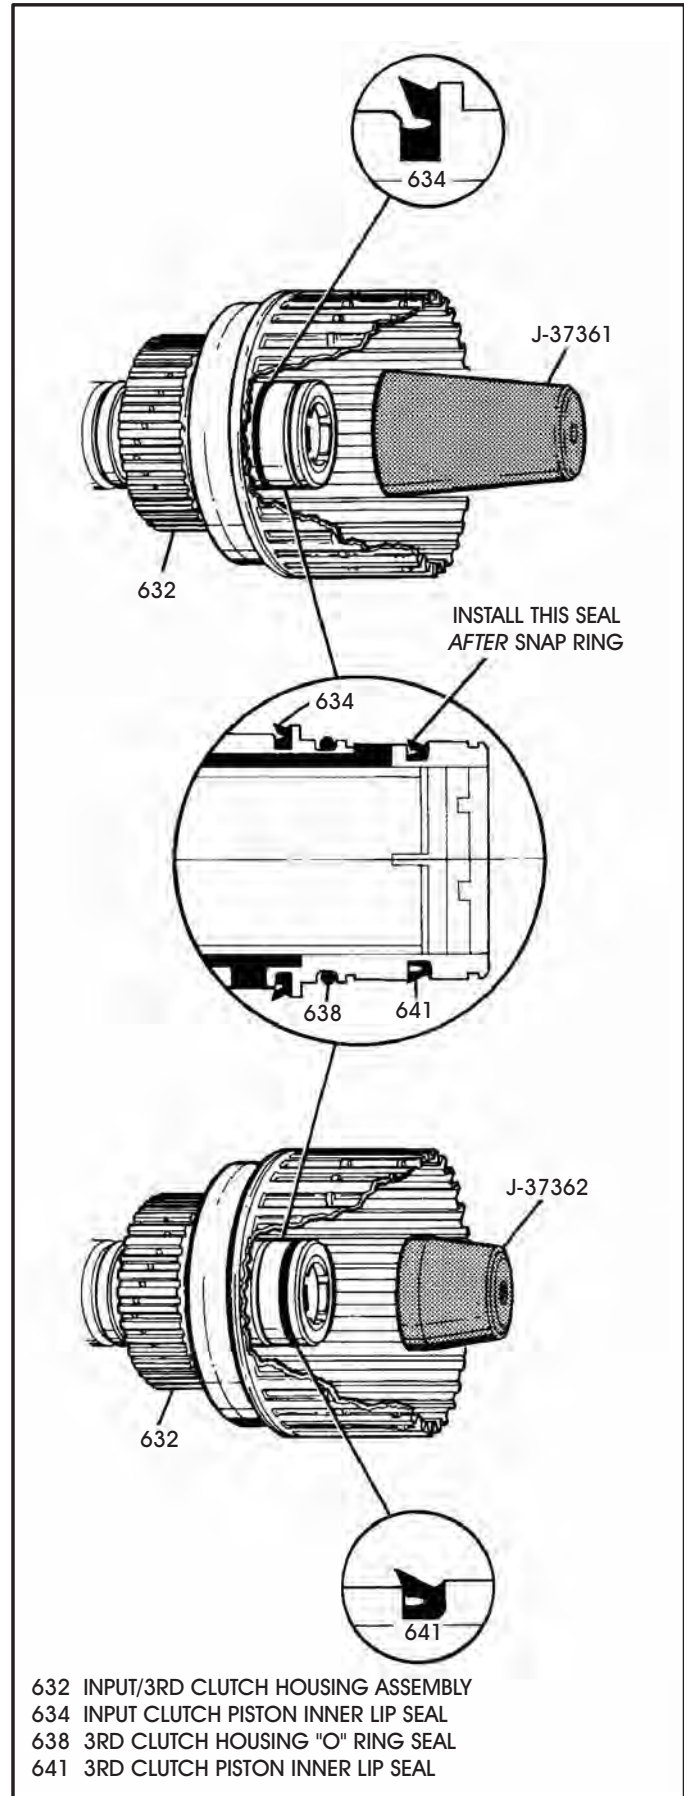

Figure 117
5. Install a new input clutch piston inner lip seal into the input housing with the lip facing down, as shown in Figure 117.
6. Use the lip seal installer J-37361, as shown in Figure 117 to prevent seal damage.
7. Install the 3rd clutch housing "O" ring seal in the proper groove in input housing, as shown in Figure 117.
16. Now install the 3rd clutch piston inner lip seal with lip facing down, as shown in Figure 117, and lubricate with small amount of Trans-Jel®.
17. Use the lip seal installer J-37362, as shown in Figure 117 to prevent seal damage.